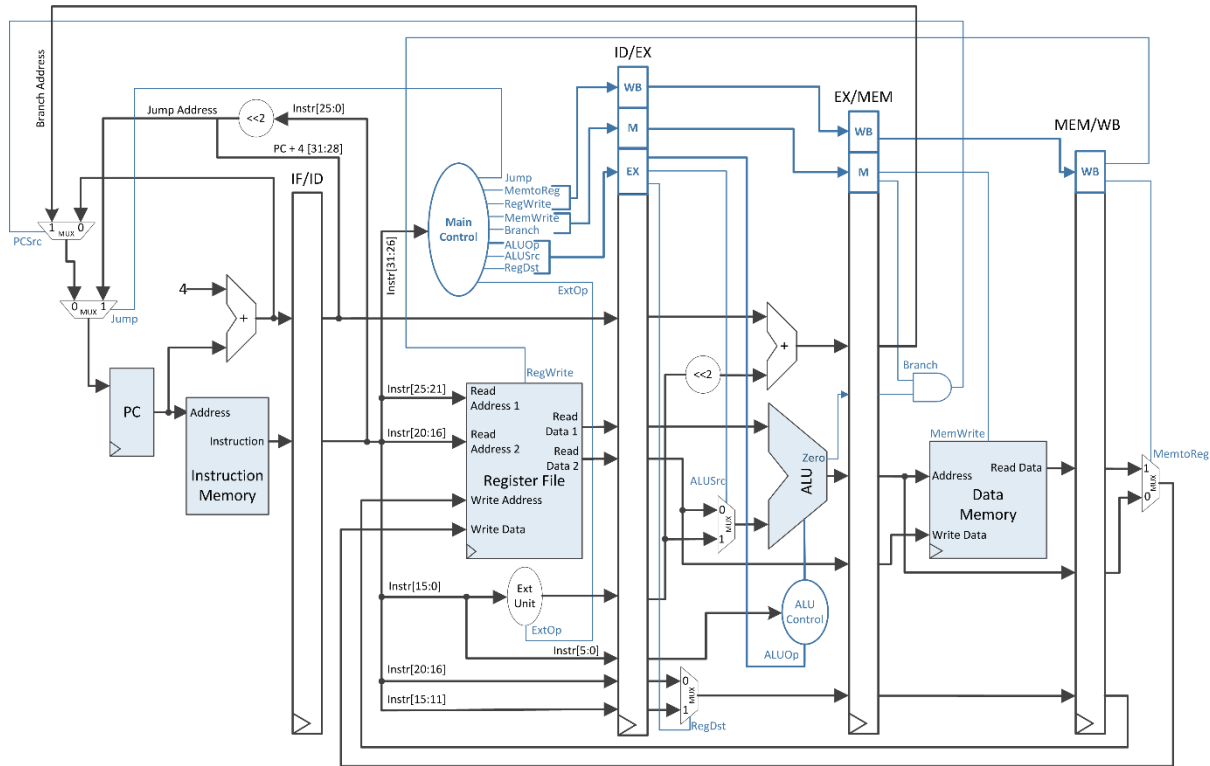

Figure 9-5: MIPS 32 Pipeline Data-Path + Control, obtained from the partitioning of the Single-Cycle Data-Path
The data-path together with the control unit for the pipelined MIPS 32 CPU is presented in Figure 9-5.
Use the data-path from Figure 9-5 (!) but keep in mind your MIPS 16 processor's features: 16 bits, not 32; based on your own chosen instructions the data-path may contain additional elements.
**Attention:** When introducing the new pipeline registers, some small modifications in your functional units may appear. You will easily identify these modifications by carefully studying Figure 9-5 and the particular data-paths for each functional unit of the MIPS 16 processor – laboratories 5, 6, 7, 8. For example, the ID unit needs an additional input port for the write address of the Register File, address that will come from the last pipeline register MEM/WB.